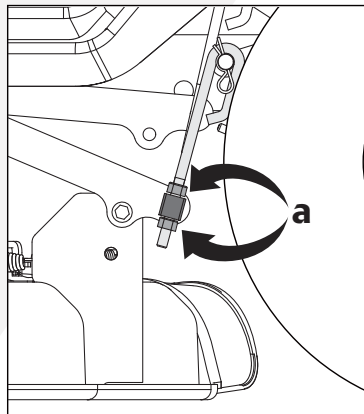

Fig. 24
3. Turn the adjustment nuts up to raise or down to lower the left side of the cutting deck. (a, Fig. 24)